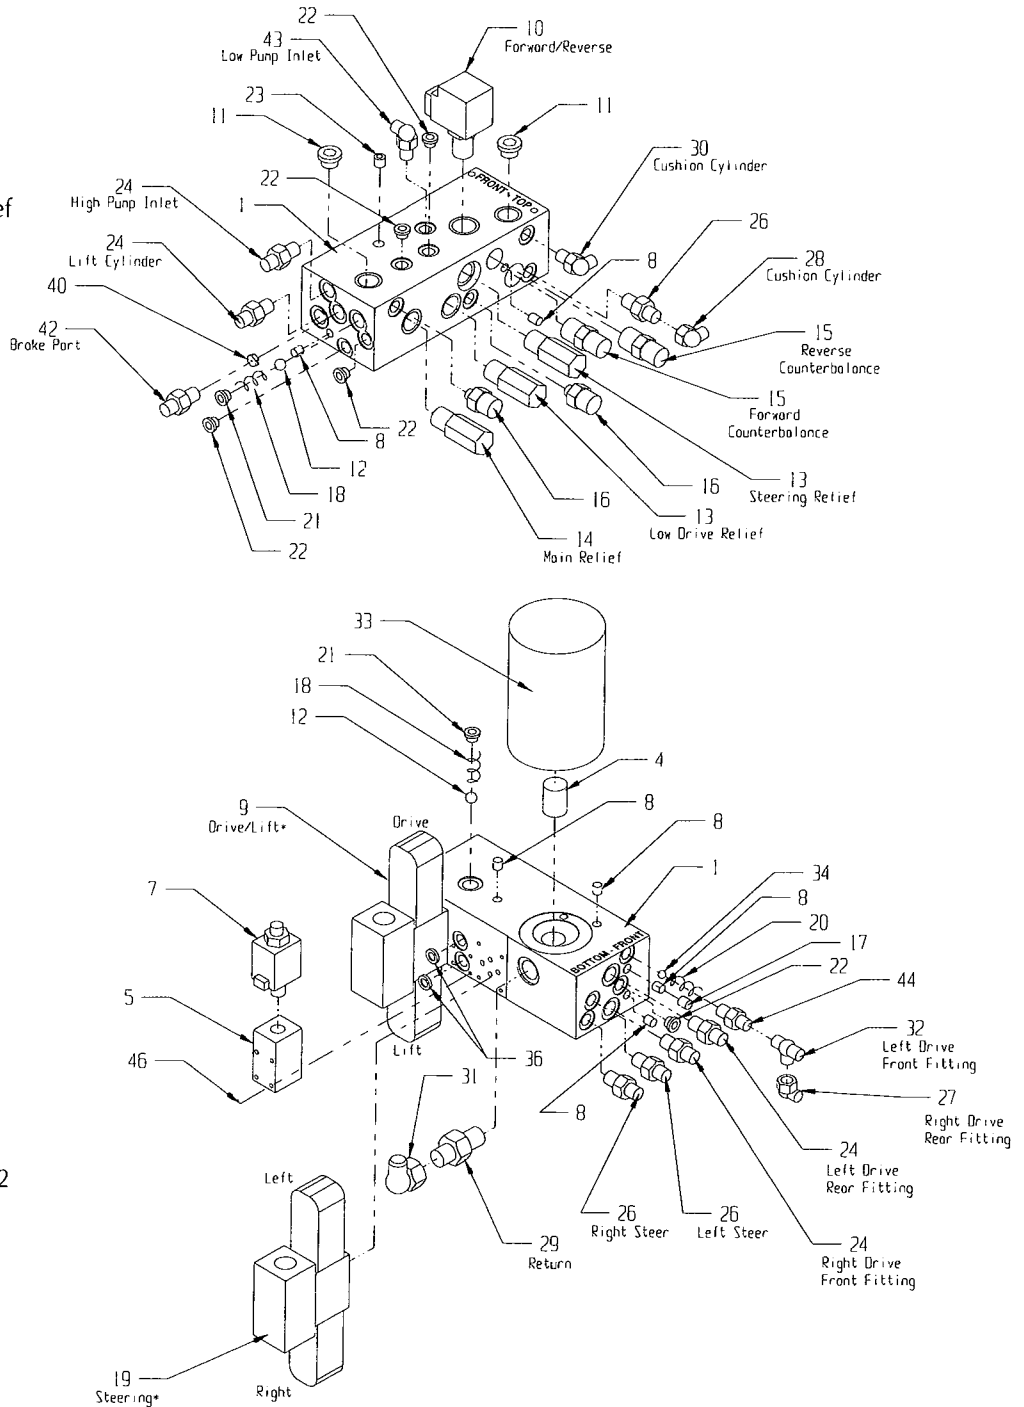

Figure 4-12: Hydraulic Manifold, Exploded View, Serial Numbers 1004-1599
4.7 Hydraulic Manifold (Figure 4-12 or 4-13)
NOTE: Mark all components as they are removed so as not to confuse their location during assembly. Refer to Figure 4-12 or 4-13 often to aid in disassembly and assembly.